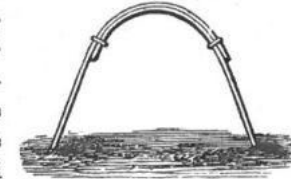

Fig. 1.
*Gipsy Tent.*—A traveller who has only a blanket, a plaid, or broad piece of material of any kind, with which he wishes to improvise a tent, may make a framework of long wands, planting their ends in the ground, bending their tops together, and lashing or watling them securely; over this the blanket is thrown (fig. 3). If the sticks are sufficiently long and pliant, their ends should be bent over the roof half-way down the opposite side, as in fig. 1. This adds considerably to the strength of the arrangement.